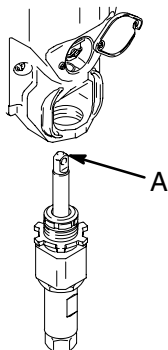

Fig. 11
1. Fig. 11. Extend pump piston rod fully. Apply grease to top of pump rod at (A) or inside connecting rod.